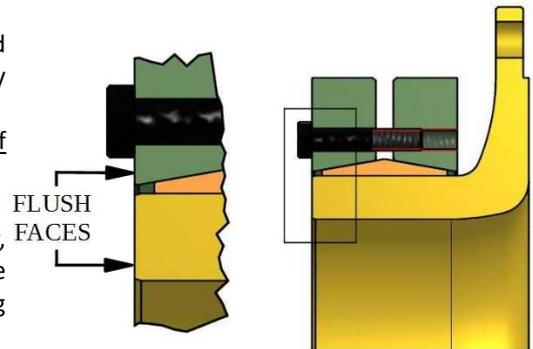

Figure 5. Positioning of shrink disc
3. Insert Shrink Disc onto flange until outer faces of Shrink Disc and flange are flush (see figure 5), then make the coupling half assembly slide onto shaft by using suitable lifting equipment.